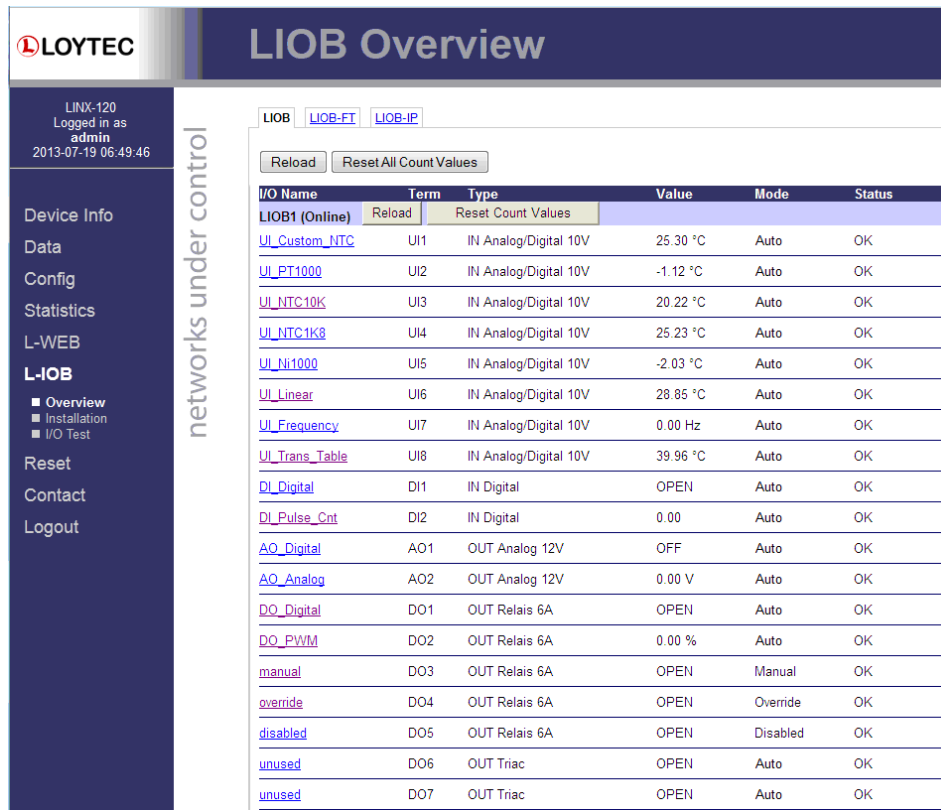

Figure 8: Checking L-IOB inputs and outputs on the Web UI
5. After downloading the configuration into the L-INX device, the L-IOB inputs and outputs can be checked with the L-INX Web UI. An example is shown in Figure 8.